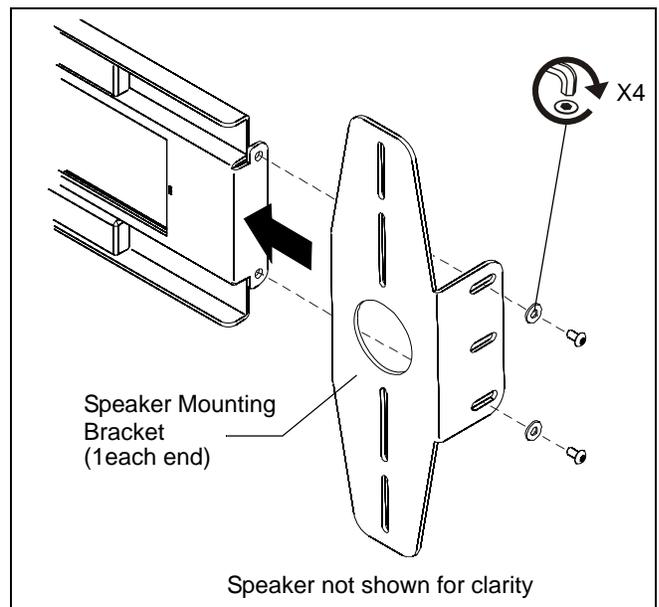

Figure 12
6. Install speaker mounting brackets with speakers to speaker mounting rails by using four button head cap screws and four washers set aside earlier. (See Figure 12)